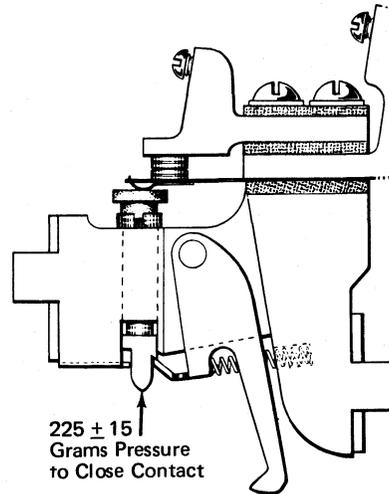

Figure 3-17. Latching Plunger Circuit Breaker—Adjustment 4
4. Check to be sure that the plunger does not bind (Figure 3-17). The coil spring spreads the bushing to create a drag between the bushing and frame. This